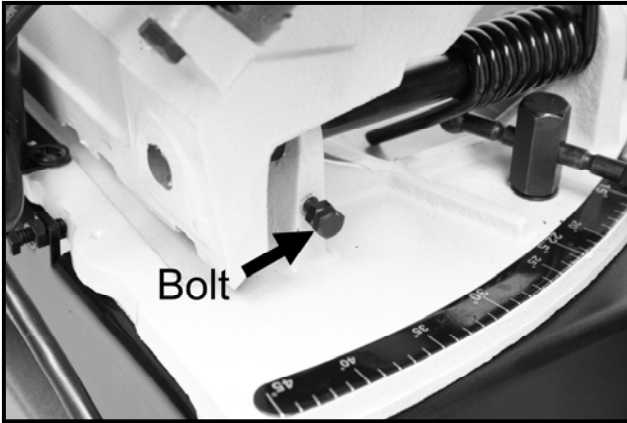

Figure-10 Removing the bolt to position the band saw at 90°
2. Remove the bolt shown in figure-10 so that the band saw can be positioned at 90°.